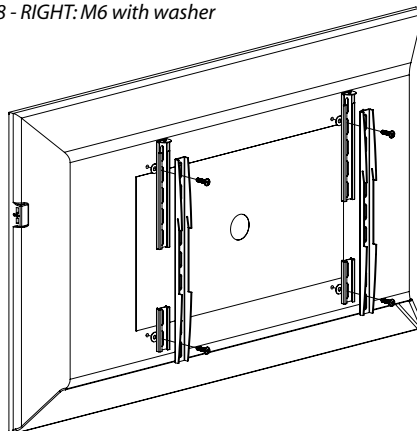

Figure 19 - Components in line with mount holes
6. Take four (4) nylon washers and align them with the VESA holes (figure 19).